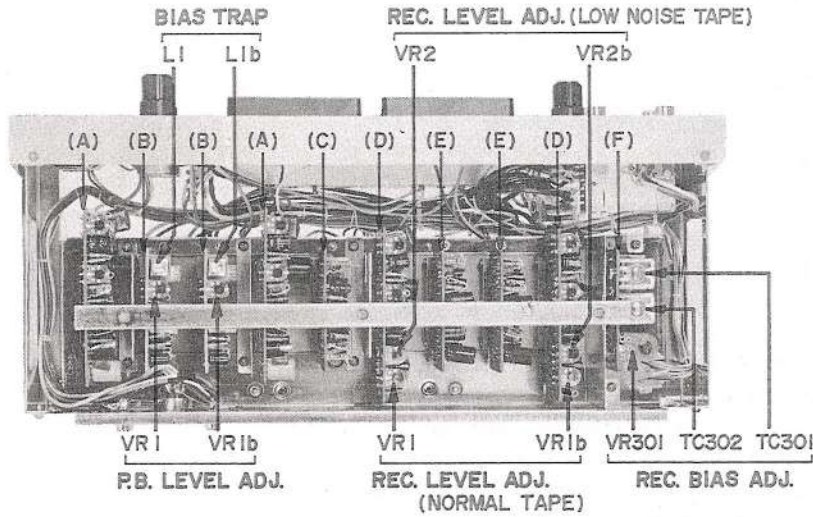

Fig. 15
- 4) Adjust P.B. Amp. P.C. Board Playback level adjustment semi-fixed resistor VR1 50 kB (left channel) and VR1b 50 kB (right channel) shown in Fig. 15 so that the V.T.V.M. indication is 0 dB (0.775V).
- 2) Adjust P.B. Amp. P.C. Board bias trap coils L1 10 mH (left channel) and L1b 10 mH (right channel) shown in Fig. 15 so that the V.T.V.M. indication is minimum (less than -50 dB).
- 6) Adjust Rec. Dolby Amp. P.C. Board recording level adjustment semi-fixed resistors VR1 20 kB (left channel) and VR1b 20 kB (right channel) shown in Fig. 15 to obtain a high sensitivity V.T.V.M. indication of 0 dB (0.775V).
- 8) Adjust Dolby Amp. P.C. Board recording level adjustment semi-fixed resistors VR2 20 kB (left channel) and VR2b 20 kB (right channel) shown in Fig. 15 to obtain a high sensitivity V.T.V.M. indication of 0 dB (0.775V).
- 3) Under these conditions, adjust OSC. P.C. Board recording bias voltage adjustment trimmer condensers TC301 70P (left channel) and TC302 70P (right channel) shown in Fig. 15 to obtain an equally flat frequency response at 1,000 Hz and 10,000 Hz.
- 4) Depress the 3-3/4 ips (9.5 cm/sec.) Tape Speed Switch and make the same adjustment as outlined above. Adjust OSC. P.C. Board recording bias voltage adjustment semi-fixed resistor VR301 (2 kB) shown in Fig. 15 to obtain an equally flat frequency response at 1,000 Hz and 10,000 Hz.